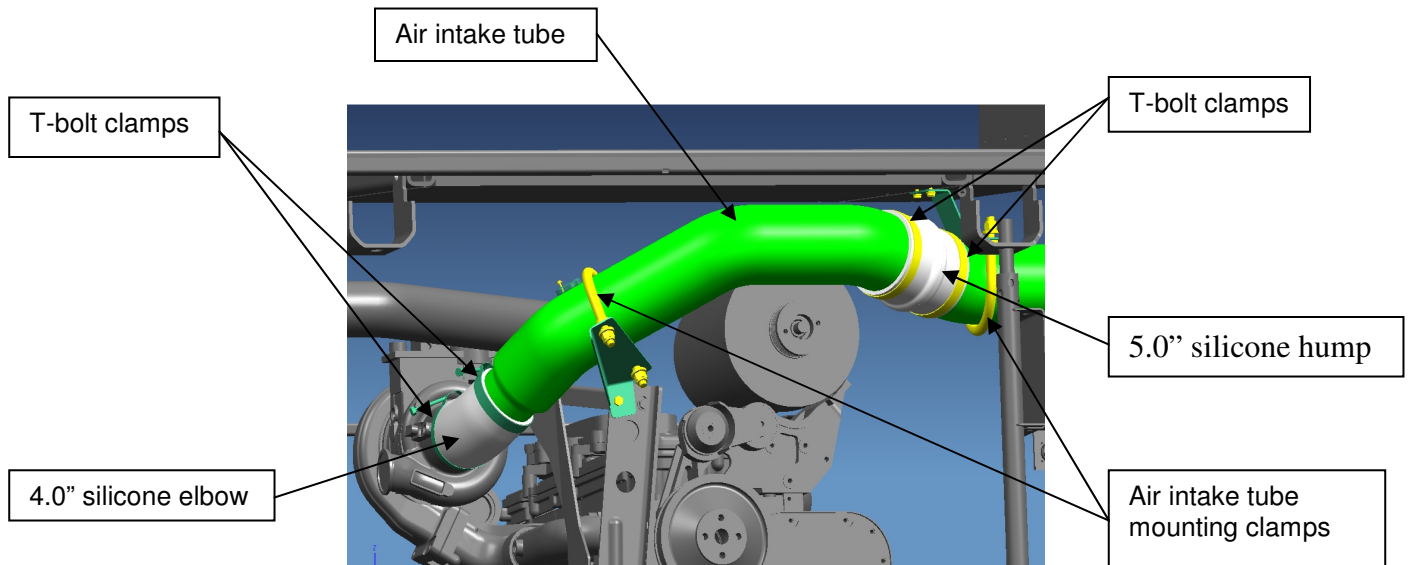

Figure 19: Air Intake Tube Removal
32. Loosen the air intake tube mounting clamps, typical 2 places. See Figure 19.
33. Loosen the T-bolt clamps on the 5.0" hose hump and the 4.0" elbow between the turbo and the air intake tube. Disassemble and remove the hump, air intake tubes, and elbow. Set aside for cleaning. See Figure 19.